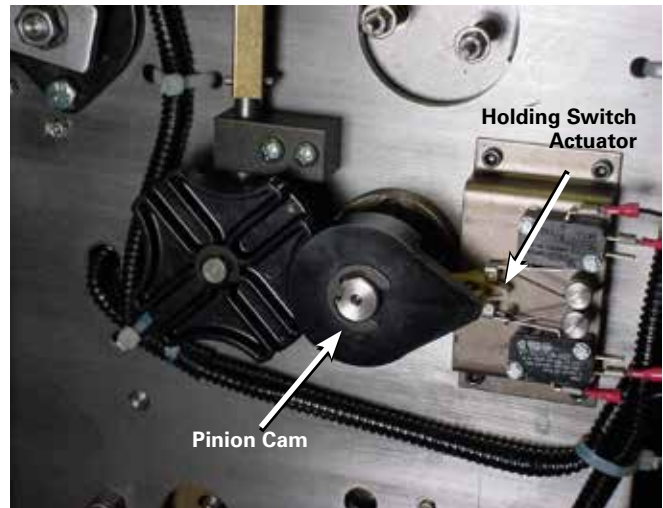

Figure 103. Neutral position for position indicator pinion cam and holding switch.
- C. The pinion cam is pointing to the right over the holding switch actuator. See Figure 103.